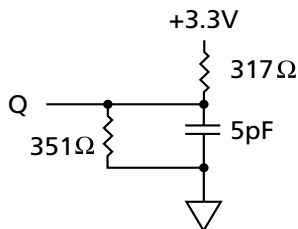
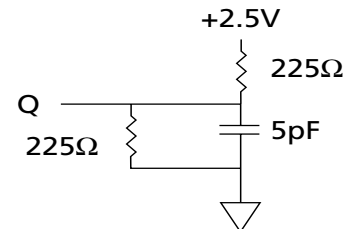

Figure 2
Figure 4
4. The load used for V_{OH}, V_{OL} testing is shown in Figure 4 for 2.5V I/O. AC load current is higher than the shown DC values. AC I/O curves are available upon request.
3. This parameter is measured with the output loading shown in Figure 2 for 3.3V I/O and Figure 4 for 2.5V I/O.